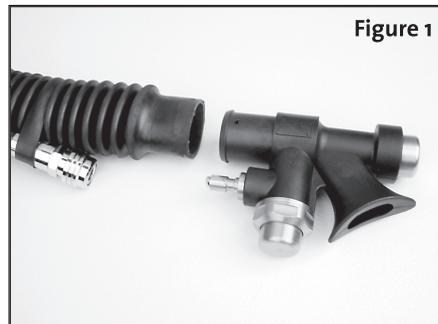

Figure 1
- 4) Push the inflator into the corrugated hose as shown in Figure 1. Wipe away excess sealant with a clean, lint-free towel.